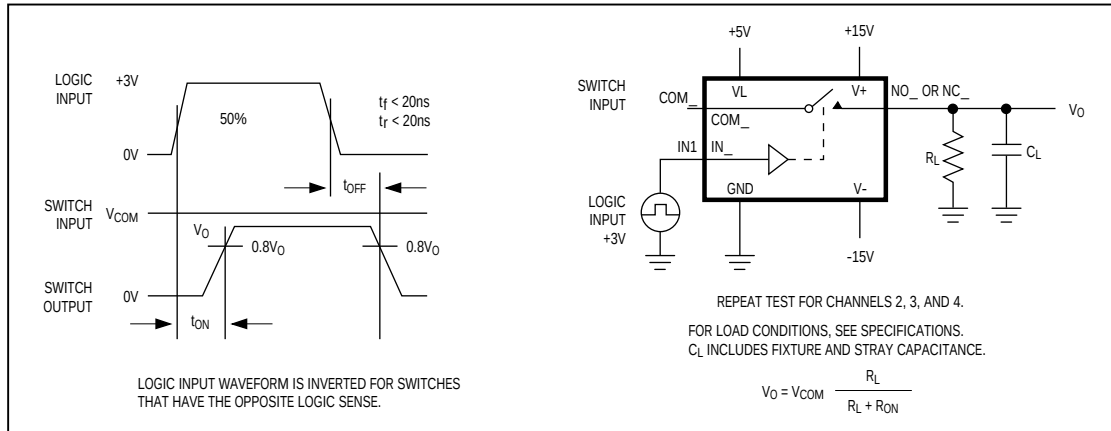

Figure 2. Switching-Time Test Circuit
| Turn-On Time               | tON       | VNO or VNC = ±10V, Figure 2                                           | TA = +25°C        |      | 150             | 250   | ns    |
| Turn-Off Time              | tOFF      | MAX364, VNO or VNC = ±10V, Figure 2                                   | TA = +25°C        |      | 90              | 120   | ns    |
|                            |           | MAX365, VNO or VNC = ±10V, Figure 2                                   | TA = +25°C        |      | 110             | 170   | ns    |
| Turn-On Time            | t ON                                               | V NC or V NO = 8V, Figure 2                                                                                                     | T A = +25°C                                |      | 300             | 400  | ns    |
| Turn-Off Time           | t OFF                                              | V NC or V NO = 8V, Figure 2                                                                                                     | T A = +25°C                                |      | 60              | 200  | ns    |
**Note 5:** See Figure 2. Off Isolation =  $20 \log_{10} \left( \frac{V_{COM}}{V_{NC} \text{ or } V_{NO}} \right)$ , VCOM = output, VNO or VNC = input to off switch.